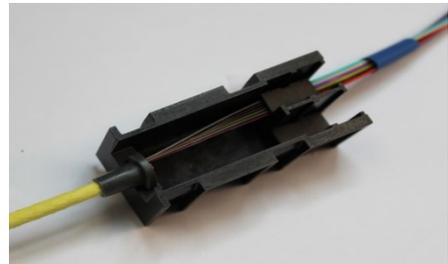

Figure 9
6.7 Once all the strands of the four sub-units are inserted into the tubing, carefully grasp and push all fibers through each Breakout Unit Assembly tubing as a group. Starting with the blue subunit, place in the breakout kit holder in the labeled position 1 as shown in **Figure 9**.